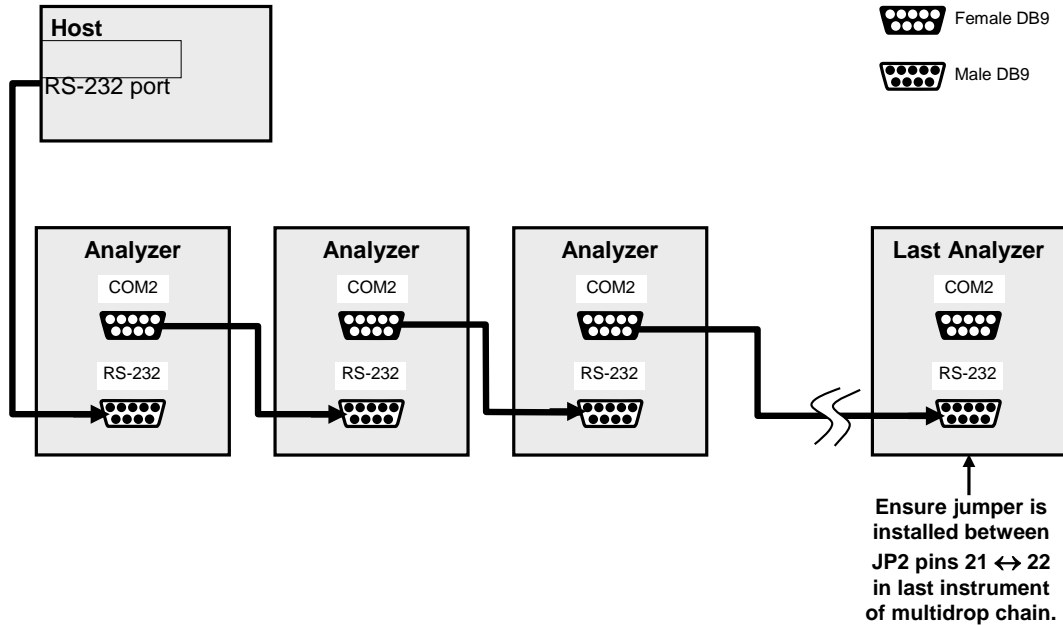

Figure 4-10. Multidrop PCA Host/Analyzer Interconnect Diagram
5. Referring to Figure 4-10 use straight-through DB9 male → DB9 female cables to interconnect the host RS232 port to the first analyzer’s RS232 port; then from the first analyzer’s COM2 port to the second analyzer’s RS232 port; from the second analyzer’s COM2 port to the third analyzer’s RS232 port, etc., connecting in this fashion up to eight analyzers, subject to the distance limitations of the RS-232 standard.